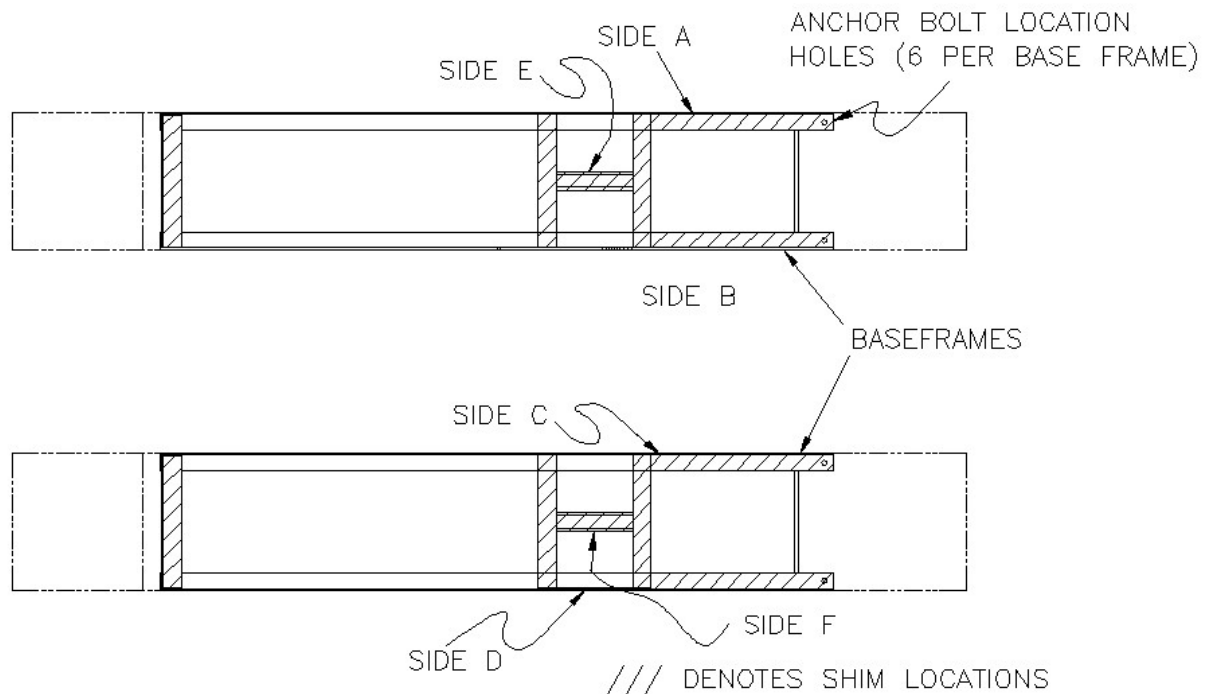

Figure 5. Levelling procedure example
1. The highest point on the floor, noted from Section 4.1 step 6 is the point from which the base frame will be levelled from. A quick check using a four (4) foot level across the base frame should again verify that this is the highest point.
2. Starting at the corner closest to the highest point, check along the length of the base frame edge with the four foot level and shim as required. **NOTE THE FIVE CRITICAL POSITIONS THAT SHIMS MUST BE PLACED ON EACH BASE FRAME OF EACH MAIN FRAME ASSEMBLY.** Refer to **Figure 5**.
LEVELLING EXAMPLE: FIGURE 5